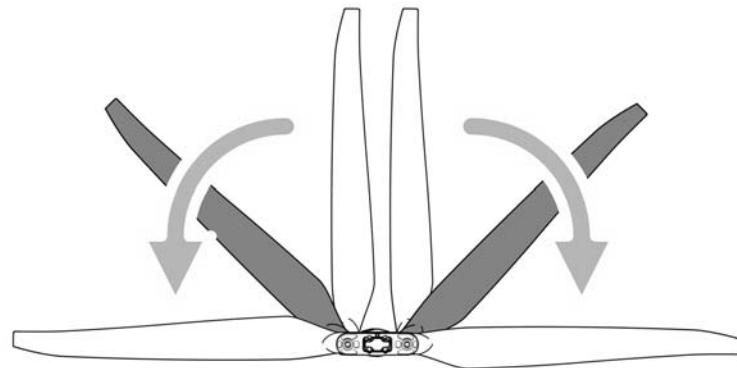

Figure 1-35 Unfold the Propellers
Step5: Unfold the propellers to 180°, as shown in Figure 1-35.